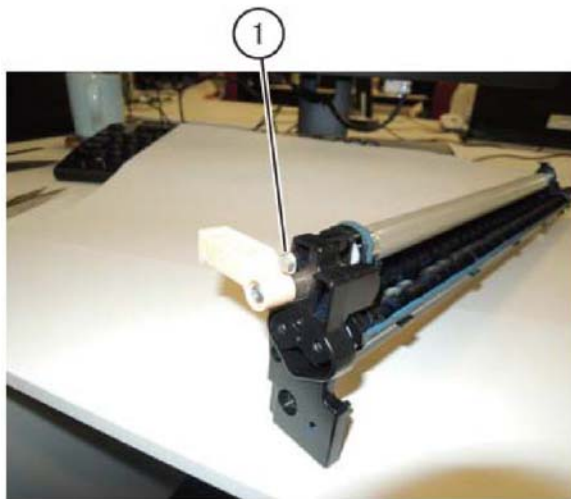

Figure 5 Long screw
8. Insert the screw (long) that was securing the developer unit into the hole to function as a stopper for the lever of developer front cover, Figure 5.
- a. Insert the long screw (1) into the hole.